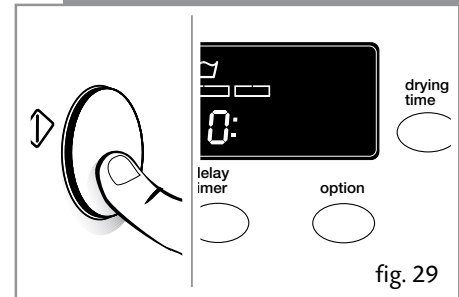

fig. 29
- To start up the washing machine you have to press the Start/Pause button (Figure 29).